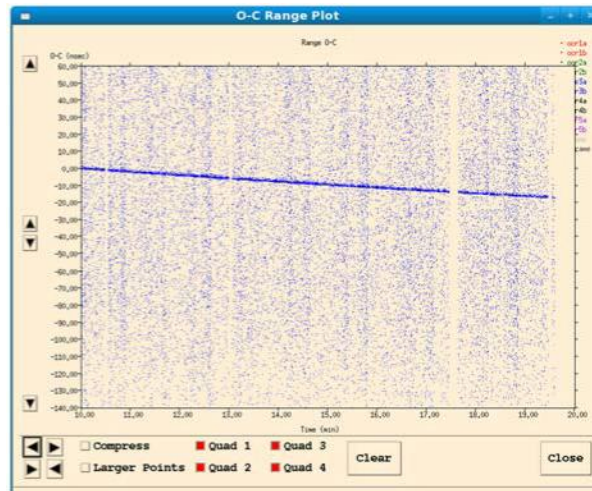

Figure 4-17: Real-time O-C Plot showing the detected return signals
9. **Verify that the system is receiving returns** – Go to *View => Realtime O-C Plot* (Figure 4-17).